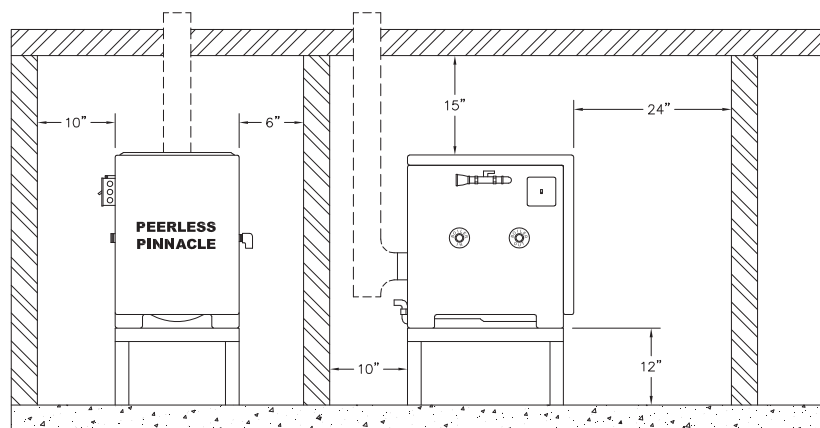

Figure 1.1: Accessibility Clearances – Floor Standing Units
2. Refer to Figure 1.1 for the recommended clearance to allow for reasonable access to the boiler. Local codes or special conditions may require greater clearances.